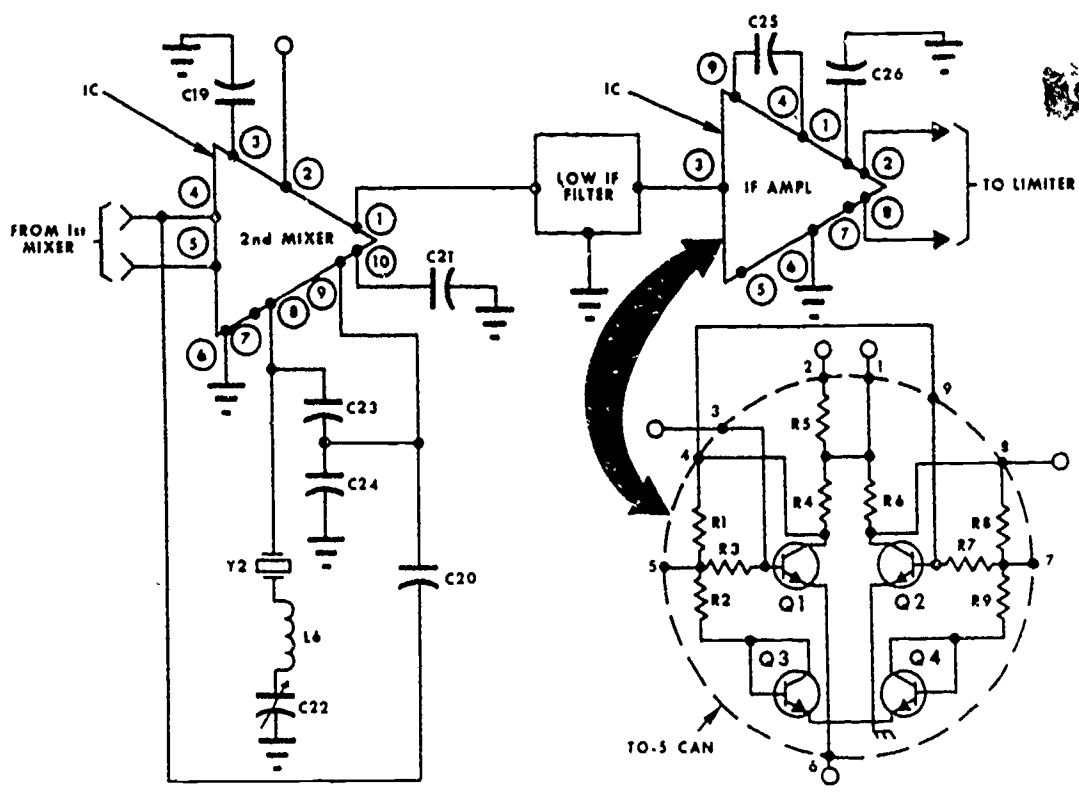

Figure 3-11. Linear IC's in a schematic diagram.
- (1) Linear. Linear, or analog, IC's produce outputs directly proportional to their inputs. They are used for transmitter and receiver circuits, such as amplifiers (audio, video, AF, and IF), squelch switches, mixers, oscillators, and other linear circuit functions. Most linear IC's must be custom-made because the requirements of each circuit are usually different. Figure 3-11 shows a partial schematic of a radio receiver that uses linear IC's. The IC's are represented by triangles, and the lines extending from them represent the leads to the IC package. In the blown-up portion of the figure, you see the detailed schematic of the IF amplifier. Although the IF amplifier contains 13 different components, it requires no more space than a conventional transistor. Because of this and the fact that IC's need so little power to operate, some of the larger communication systems of today will be reduced to manpack size in the future.
- (2) Digital. Digital IC's perform switching functions in logic circuits. Because digital IC's operate with low power, are used thousands of times in the same form, and can operate effectively despite loose tolerances, they have proved ideal for integration. Digital IC's include logic gates, flip-flops, counters, and shift registers. The entire circuit is contained in a single monolithic chip, and is used in high-speed computers. One big advantage of digital IC's over conventional digital circuits is that they operate faster. Some digital IC's can operate in 400 trillionths of a second.